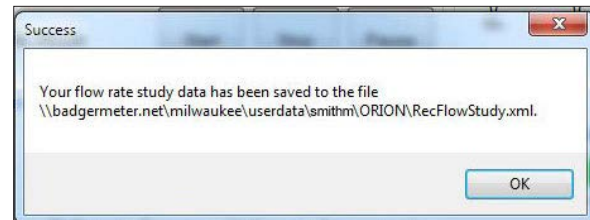

Figure 45: Flow Rate Study results saved
*Result: A screen displays (Figure 45) showing the location of the saved file.*